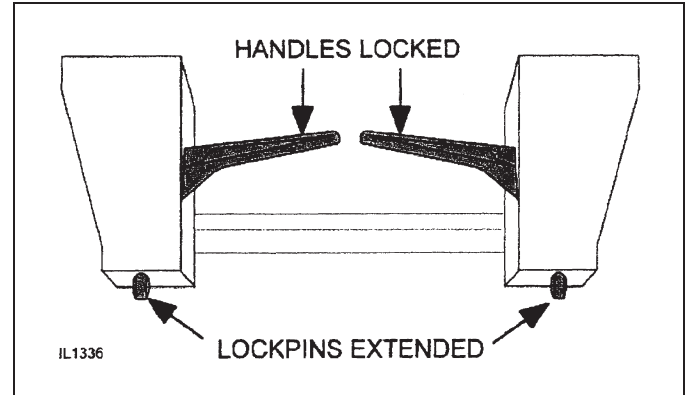

Figure 3. Attachment Coupler Handles - Locked
7. Engage the latching mechanism to secure attachment to loader. The lockpins must be completely extended and secured into the retaining slots, figure 3. Raise the parking stand and pin in place. Connect the power cable connectors at the rear of the grapple to main power cable.